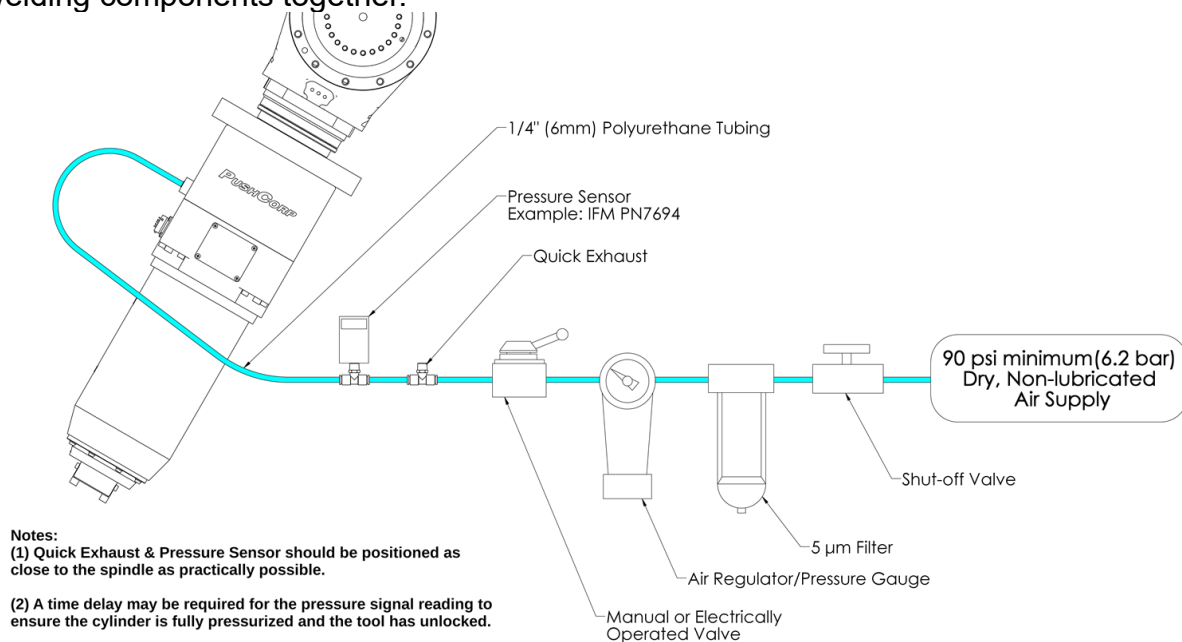

FIGURE 7: PNEUMATIC CONNECTIONS
The pneumatic supply system should be configured as shown in Figure 7. A manual or electrically operated valve may be used to energize the STC1015 for toolholder release, but the valve must exhaust **ALL** line pressure when unenergized. An electrically operated pneumatic valve is normally used in an automated work cell. PushCorp highly recommends the installation of a Pressure Switch in the Supply Line to the STC1015. This switch should not allow the STC1015 to start if there is any pressure in the Supply Line. Pressure in the line will cause internal components to come into contact. This will either cause the motor not to spin, or cause very high internal friction, eventually friction welding components together.
5. Using a pressure sensor, such as IFM PN7694, verify that you have achieved at least 90 psi, again not to exceed 100 psi (refer to Figure 7 for connection set up)